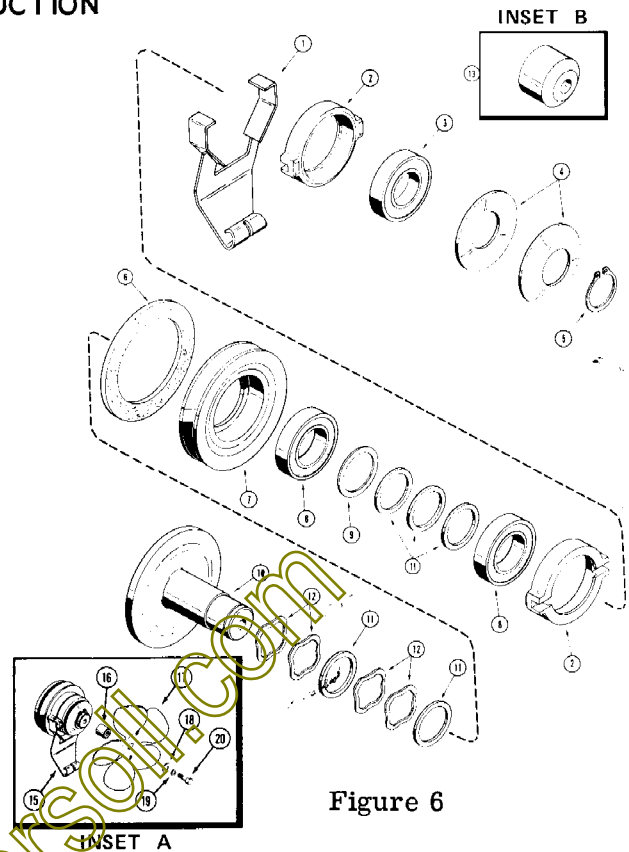

Figure 6
Spacer Kit, part number C16483, is available to replace the snap ring (5) in the event the groove in the drive hub (10) is worn. See inset B reference 13 in Figure 6. Therefore, it is not necessary to replace the drive hub (10) because the snap ring does not hold.
4. Disconnect the PTO control rod from the engaging arm (1), Figure 6.
5. Remove the right hand thread bolt, Inset "A", Figure 6 (20) with lock-washer and plain washer and remove the fan (17) and spacer (16).
8. Carefully clamp the clutch assembly in a vise and compress the load springs (4) enough to remove the snap ring (5).
9. Remove the clutch from the vise. Clean off paint and remove any burrs from the snap ring end of the hub assembly (10).
10. Remove the springs (4), outer cam (2) and engaging arm (1).
11. Remove the inner cam (2). Check for and remove any shim washers (9) or (11) which may have come off attached to the cam.
12. Remove the shim washers (9) and (11), pulley (7), friction disc (6), and shim washers (11) and springs (12) from the drive hub (10).